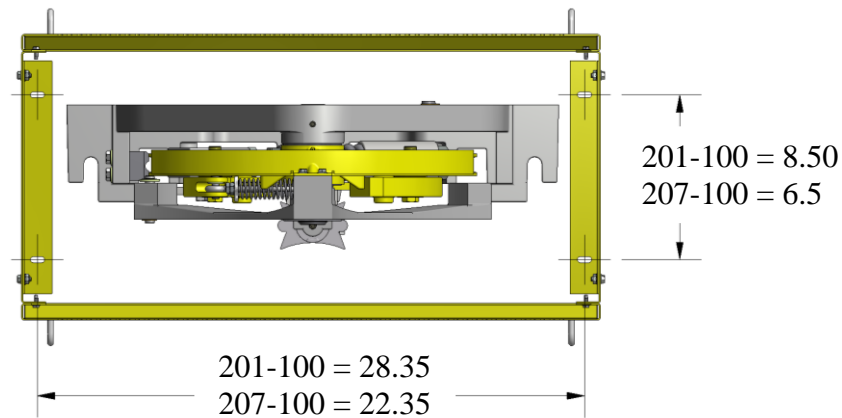

Figure 2: Mounting Bracket Layout Inside Guard
Note: The governor guard assembly mounting brackets (p/n 201-101 or 207-101) can be configured in several ways. It is important to plan which configuration will best suit the installation. Representative mounting bracket configuration illustrations are shown below (Figures 2, 3 & 4).
- Remove the governor guard assembly and verify that the marked mounting locations correspond with the dimensions shown in Figures 2 through 4.